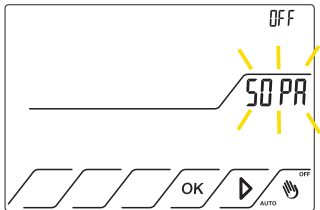

Fig.45
11.4.2 Press  up to position on **SO PA** that it will start to flash. The status is OFF. Fig.45